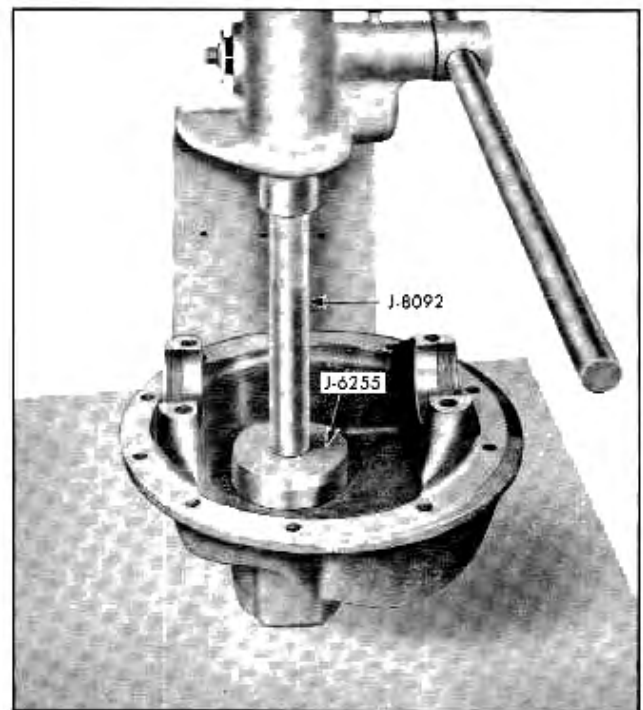

Fig. 4-32 Installing Rear Bearing Outer Race With Installer J-6255 And Drive Handle J-8092
16. If rear bearing outer race was removed, replace by pressing firmly in place against shoulder of carrier using Installer J-6255 and handle J-8092 (Fig. 4-32).